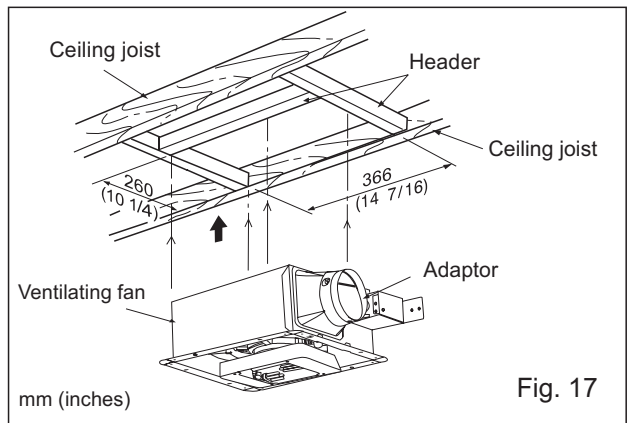

Fig. 17
4. Install header between ceiling joists using nails or screws. (Fig.17)
5. Install the ventilating fan and secure with screws. (Fig.17 and Fig.18)